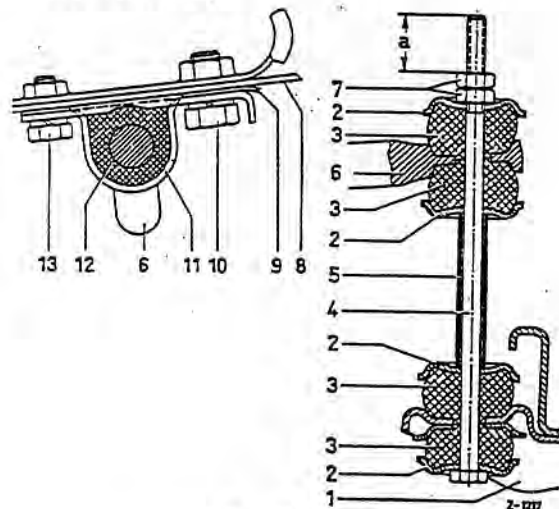

Fig. 32-6/2
3. Check the two rubber mountings (12), the rubber buffers (3) and the hexagon screws (4) together with the cup washers (2) and the spacer tubes (5) (Fig. 32-6/2).
5. Fasten the torsion bar to the lower control arm, taking care to ensure that the rubber buffers and the cup washers are properly arranged. Screw on the hexagon nuts (7) in such a way that the prescribed initial stress of the rubber buffers is obtained. For this purpose measure the distance "a" from the screw end to the upper hexagon nut. (For dimensions see Table in Job No. 32-0). Then lock the two hexagon nuts (Fig. 32-6/2).